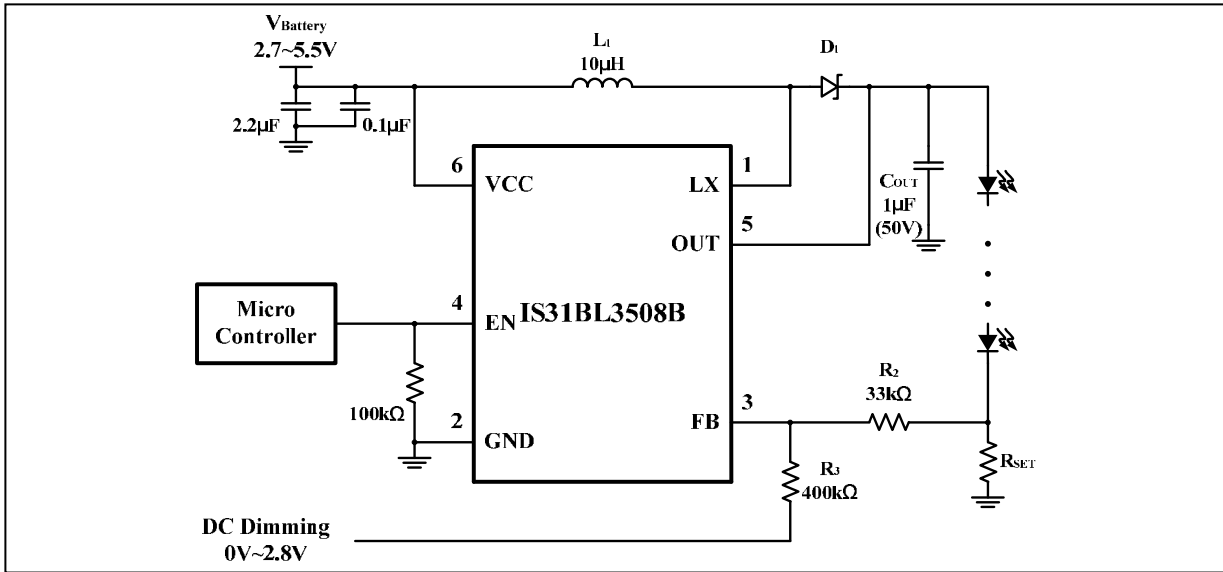

Figure 5 Constant output current with DC dimming input
The schematic of Figure 5 shows an example of using a DC input voltage at the FB pin to implement LED dimming. When the DC input voltage increases, the current through R₂ and R₃ increases producing an offset voltage across R₂, thereby causing the LED current to be reduced. The LED current may be computed using the following Equation (3). V_{FB} is 0.2V (typ).